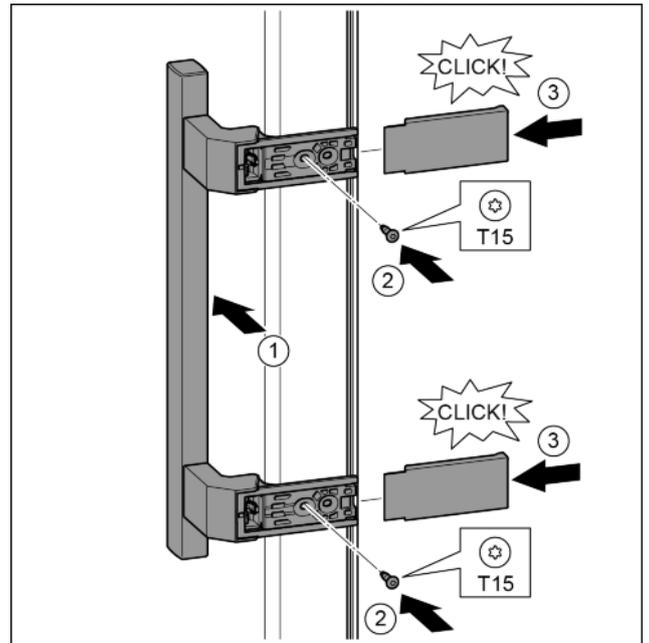

Fig. 15
- ▶ Position the handle on the other side. Fig. 15 (1)
- ▶ Tighten the screws with the T15 screwdriver. Fig. 15 (2)
- ▶ Position the covers on the side and push in. Fig. 15 (3)